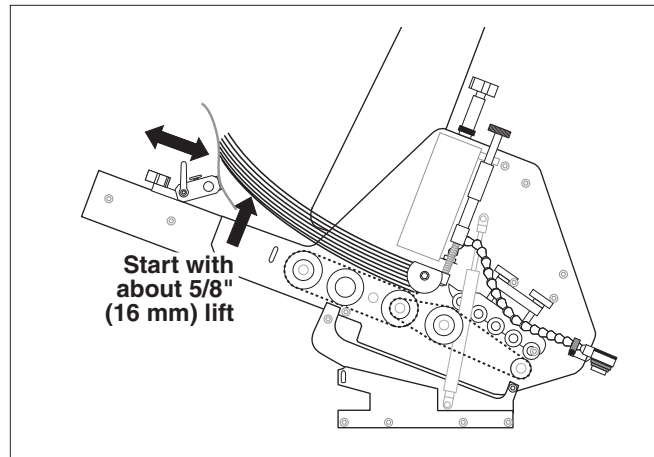

Figure 2-11. Adjusting Back Wedge for Proper Lift
4. Move the back wedge forward and backward until the bottom sheet is not touching the table top (Figure 2-11). A good starting point is to measure about 5/8 in. (16 mm) from the bottom sheet to front edge of table top. As you test, you can “fine tune” from this point.